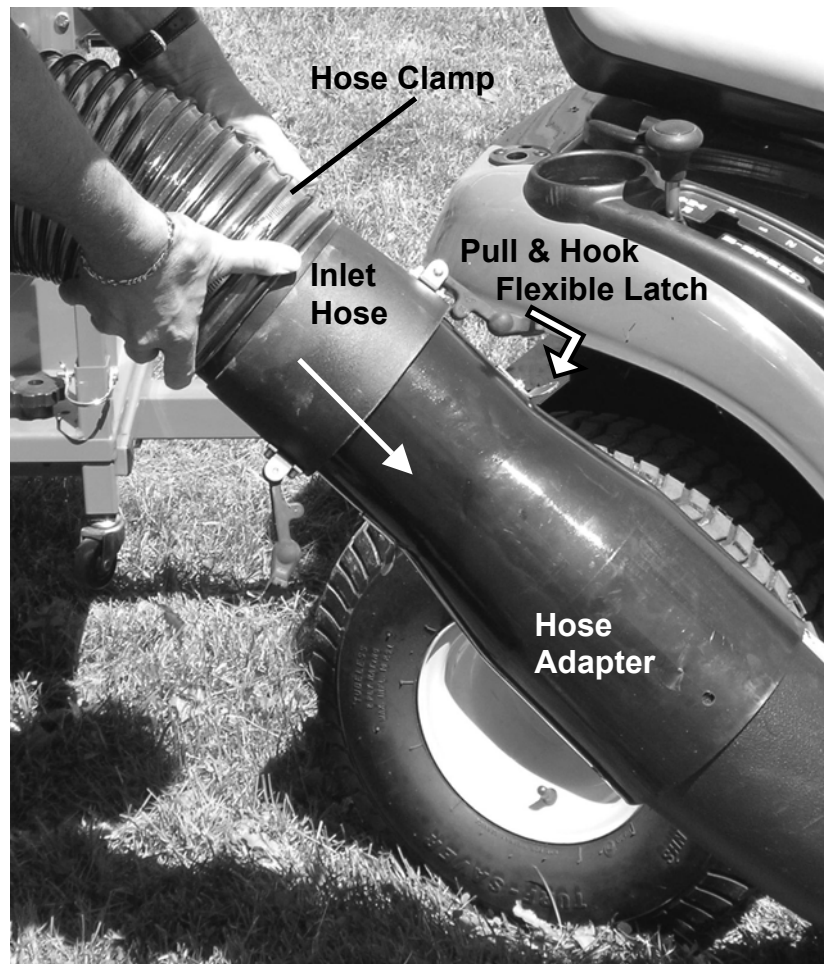

Figure 22
1. Connect the hose from the Blower Inlet to the Hose Adapter by aligning the two flexible latches and slipping the end of the hose over the adapter (*Figure 22*).
2. Pull and hook the two flexible latches into place (*Figure 22*) to secure the hose.
3. Make sure the Collector Box Tilt Bed is secured down by the Dump Lever (*Figure 29*), the Collector Box hose is latched in place (*Figure 15* on page 16), and the Blower Inlet Vacuum Hose is securely attached to the Hose Adapter (*Figure 22* on page 21).